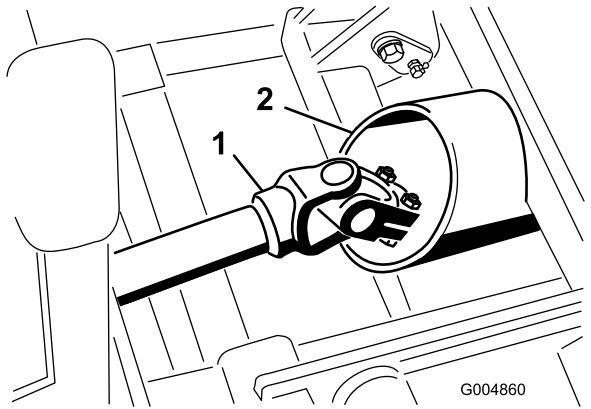

Figure 45
5. Carefully roll the winter frame assembly into position while routing the drive shaft through the frame tube (Figure 45).